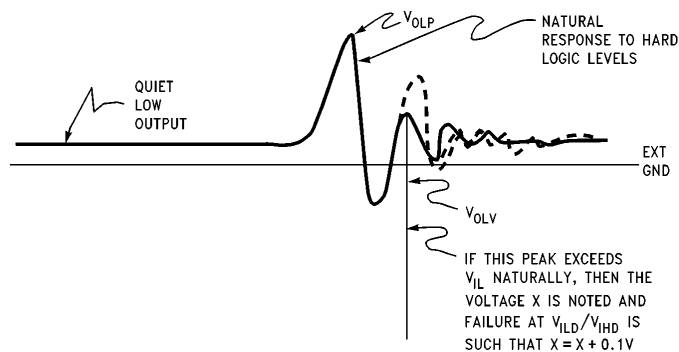

FIGURE 9
- If the natural ringing, other than initial switching rail bounce, of the output violates the previous two criteria then the ringing amplitude will be noted. Failure is then defined as a 100 mV movement in the output toward the threshold from the peak ringing amplitude, (*Figure 9*).